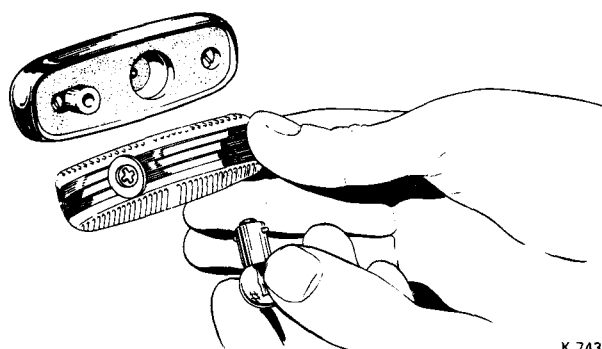

FIG. M52 ACCESS TO DIRECTION INDICATOR REPEATER BULB
1. Remove the lens securing screw (see Fig. M52).